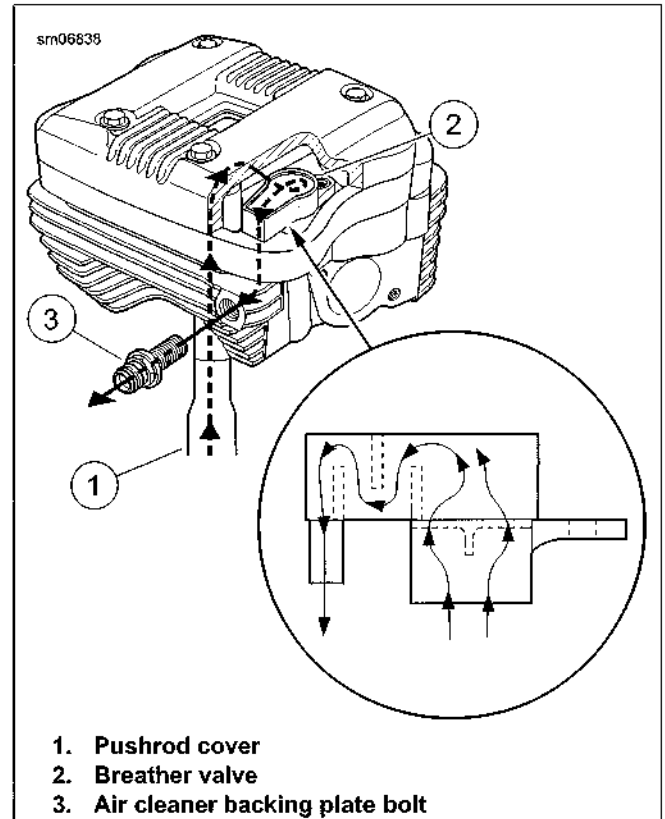

Figure 3-5. Crankcase Breathing System
See Figure 3-5. On the piston downstroke, a mixture of crankcase air and oil mist is vented up the pushrod covers (1) through a breather valve (2) in each inner rocker box section.